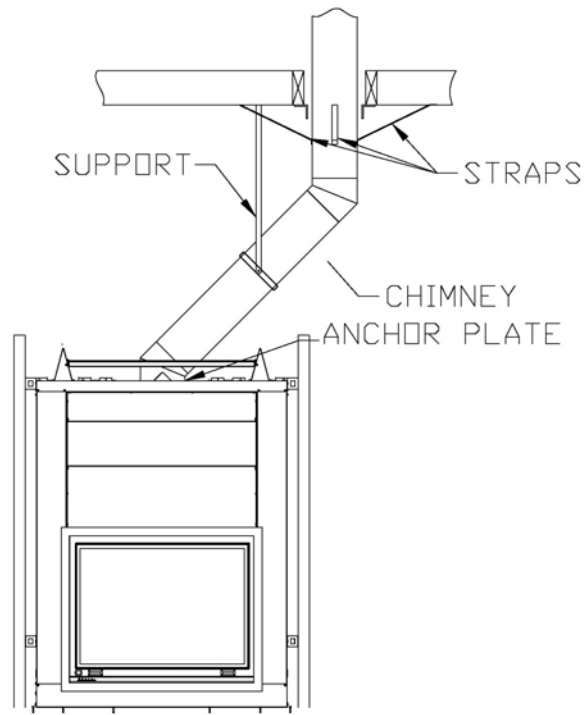

Figure 34
1. Install the first elbow; turn it in the required direction. Secure it to the chimney according to the chimney manufacturer's instructions. In many cases, it is recommended to secure connections with three (3) ½" (12 mm) metal screws.
2. Install the necessary chimney lengths to achieve the required offset. Lock the chimney lengths together according to the chimney manufacturer's instructions. In many cases, it is recommended to use three (3) ½" (12 mm) metal screws. If the offset length is made of two (2) chimney lengths or more, many chimney manufacturers may require that you use an offset or roof support halfway up the offset. If penetrating a wall, install a wall radiation shield supplied by the chimney manufacturer (see Figures 34 & 35).